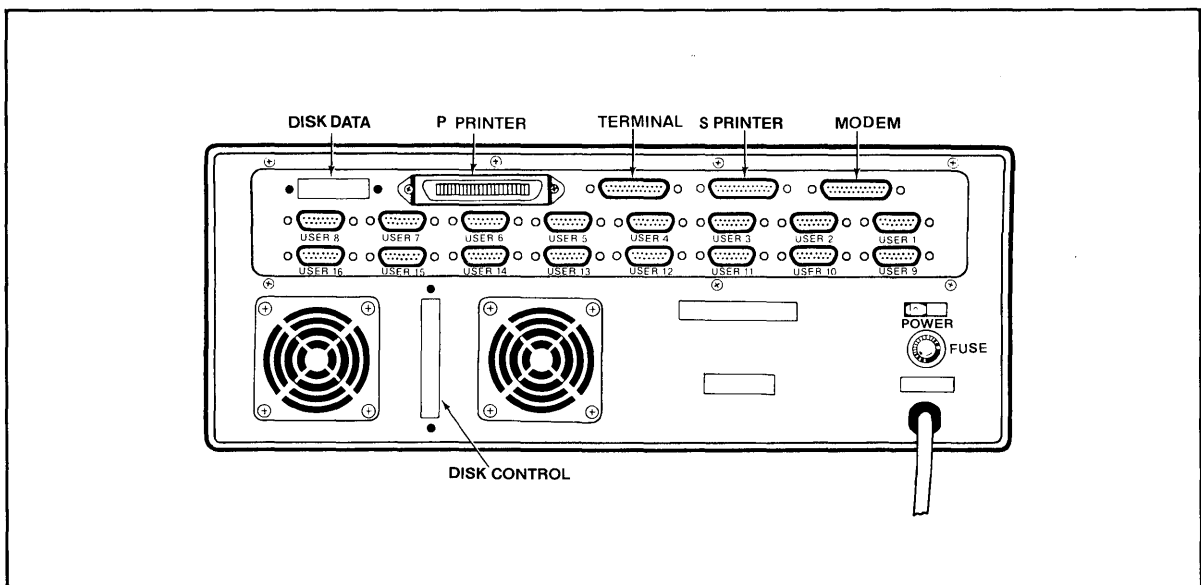

Figure 2-6 Rear Panel of the TS 816/40
- Attach one end of an RS232 interface cable to the pin connector labeled **TERMINAL** on the rear of the TS 816/40. (See Figure 2-6.)
1. Attach one end of an RS422 interface cable to one of the pin connectors labeled **User 1** through **User 16** on the rear panel of the TS 816/40. (See Figure 2-6.)